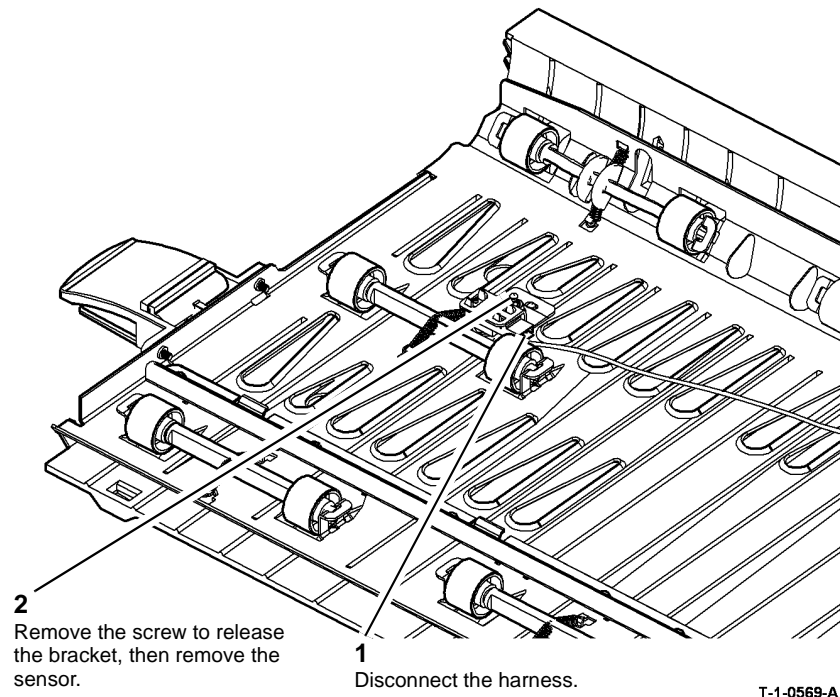

Figure 2 Duplex sensor (65-90 ppm)
- b. **(65-90 ppm)**. Remove the duct from the duplex transport. Remove a duplex sensor, Figure 2.